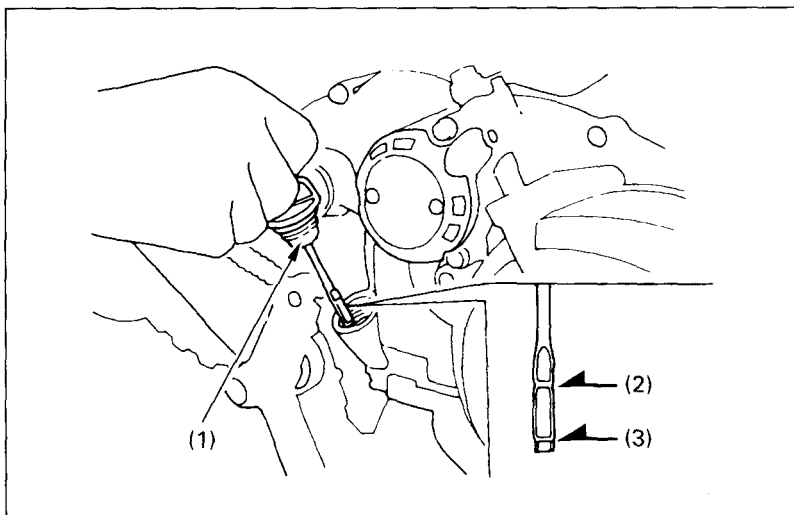

Fig. 2-19 (1) Oil filler cap/dipstick (2) Upper level mark
The oil filler cap/dipstick (Fig. 2-19), on the right crankcase cover, is used to measure the oil level. The oil should be checked each day before operating the FOURTRAX and maintained between the upper level mark (2) and the lower level mark (3).